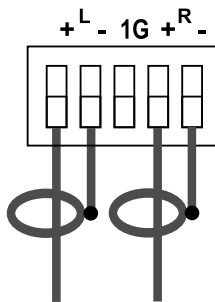

Figure 7: Connecting the Unbalanced Stereo Audio Input
- An unbalanced audio input, see Figure 7